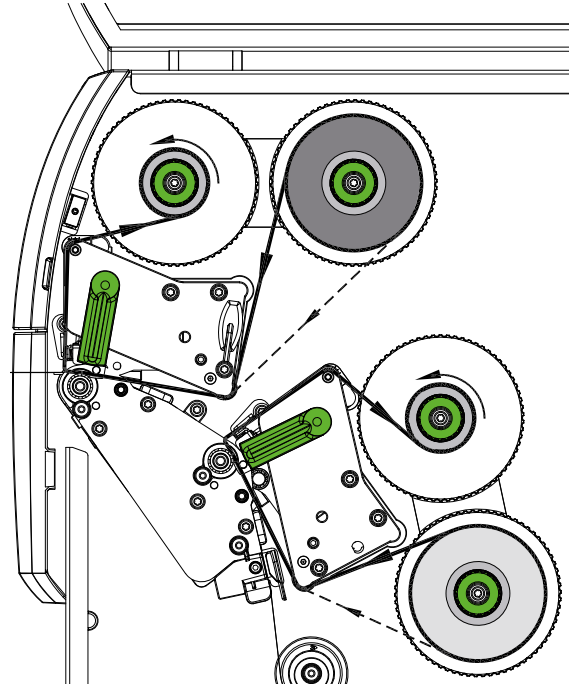

Figure 17 Transfer ribbon feed path
2. Turn lever (1) counterclockwise to open the printhead.
3. Slide transfer ribbon roll (4) onto the ribbon supply hub (5) until it stops and so that the color coating of the ribbon faces away from the printhead after loading.
4. Hold ribbon supply hub (5) firmly and turn knob (6) counterclockwise until the transfer ribbon roll is secured.
5. Slide suitable transfer ribbon core (2) onto the transfer ribbon take-up hub (3). Position and secure it in the same way like the supply roll.
6. Guide transfer ribbon through the print unit as shown in Figure 17. The broken line shows the path for ribbon with ink side out.
7. Secure starting end of transfer ribbon to middle of the transfer ribbon core (2) with adhesive tape. Ensure counterclockwise rotation direction of the transfer ribbon take-up hub.
8. Turn transfer ribbon take-up hub (3) counterclockwise to smooth out the feed path of the transfer ribbon.
9. Turn lever (1) clockwise to lock the printhead.